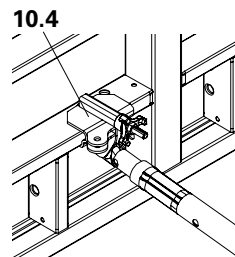

Fig. A3.03b
- 10.4 Connecting holes for Scaffold Brackets, Push-Pull-Props and other accessories (Fig. A3.03b + A3.03c)